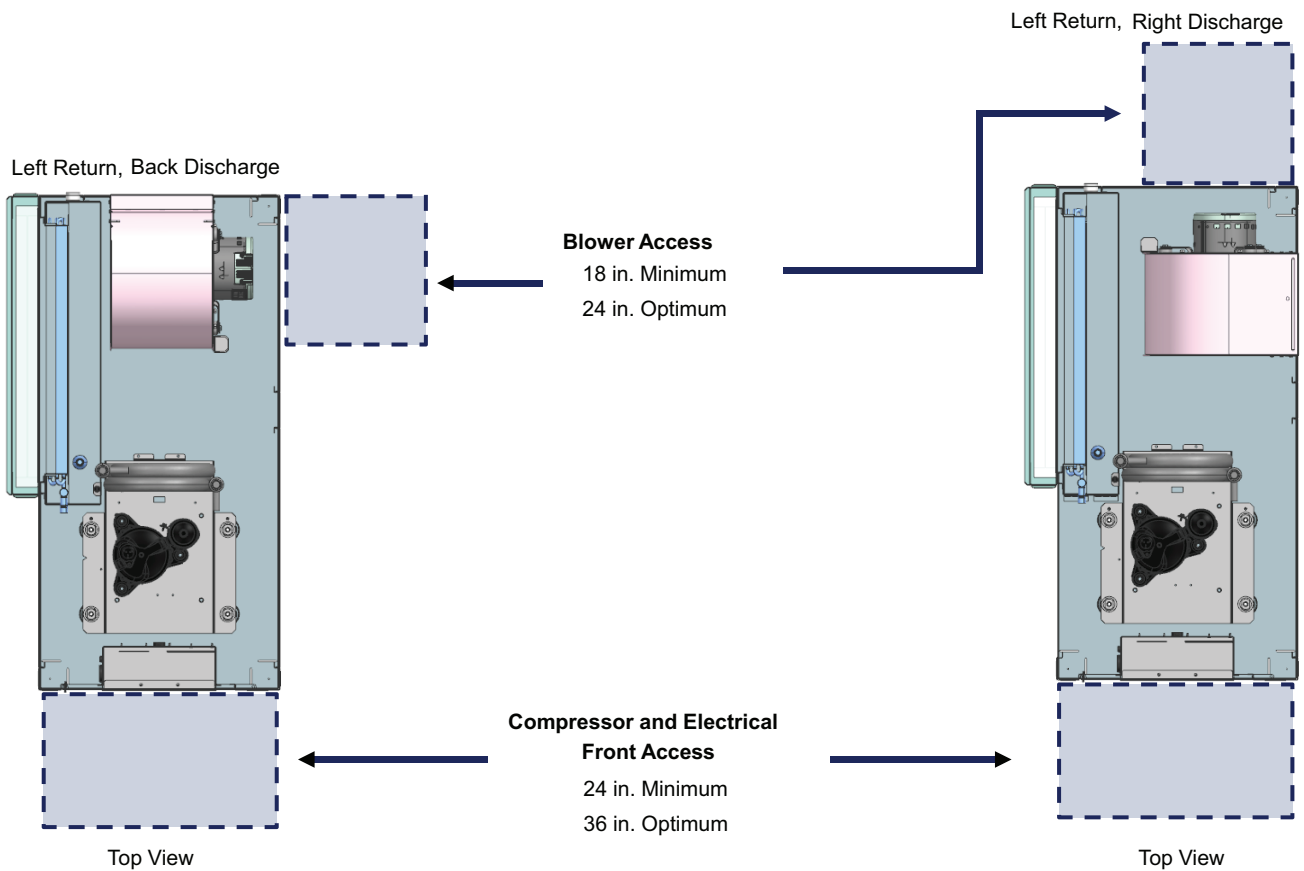

Fig. 4 — 50WD Service Clearance
6. Provide adequate clearance for filter replacement and drain pan cleaning. Do not allow piping, conduit, etc. to block filter access. See Fig. 4.
7. Provide sufficient access to allow maintenance and servicing of the blower and blower motor, compressor, refrigerant circuit, controls, and coils. See Fig. 4.
Locate the unit in an indoor area that allows easy removal of the filter and access panels, and has enough room for service personnel to perform maintenance or repair. Provide sufficient room to make fluid, electrical, and duct connection(s). If the unit is located in a confined space such as a closet, provisions must be made for return air to freely enter the space. See minimum service clearances in Fig. 4.